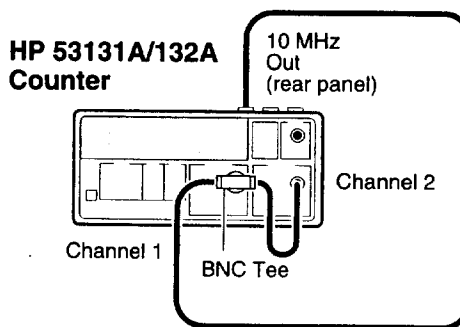
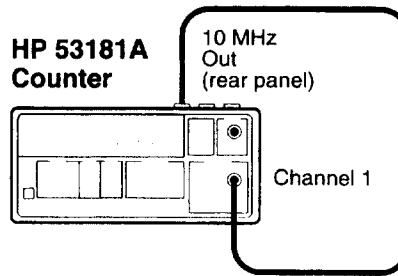

Figure 1-1A. Operational Verification Setup for HP 53131A/132A
Figure 1-1B. Operational Verification Setup for HP 53181A
- 7 Connect the Counter’s rear-panel **10 MHz Out** as shown in Figure 1-1A or Figure 1-1B, depending on which Counter you are testing.